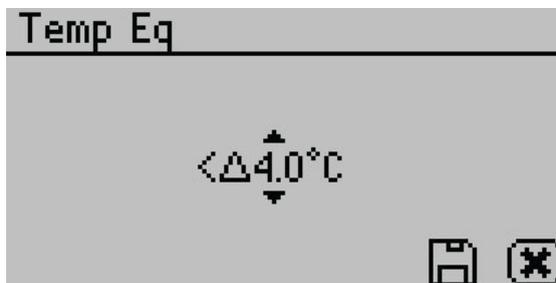

Figure 31 Temp Eq screen
- **Temp Eq.** Select to set the acceptable temperature difference between the sample block and the sample before starting a water activity measurement (Figure 31).